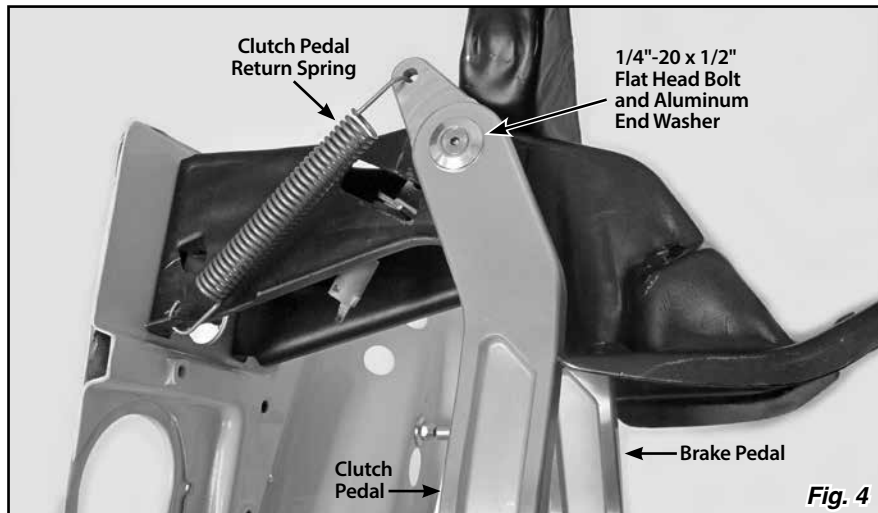

Fig. 4
**Step 4:** Install the Clutch Pedal onto the left hand end of the splined shaft. Install the aluminum end washer onto the left hand end of the splined shaft. Connect one end of the return spring to the hole at the very top of the Clutch Pedal, and connect the other end to the hole in the pedal hanger bracket near the firewall. **Fig. 4**